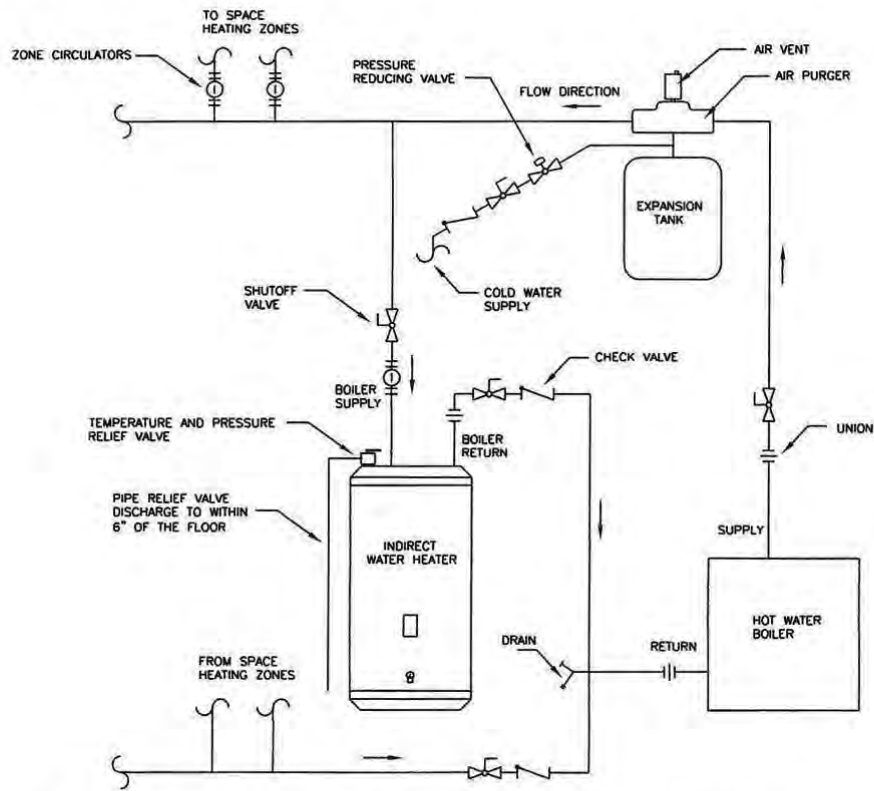
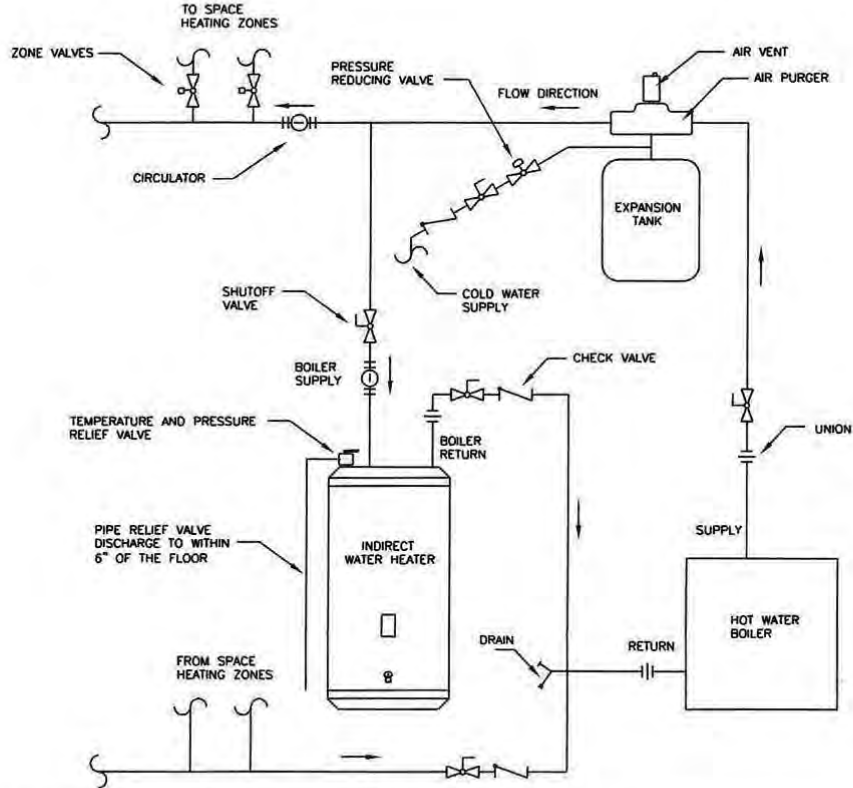

FIGURE 2 – BOILER WATER PIPING WITH ZONE CIRCULATORS
FIGURE 3 – BOILER WATER PIPING WITH ZONE VALVES
### **WATER BOILER PIPING (Refer to Figures 2, 3 on Pg. 10)**
1. Determine where the boiler, the space heating, and the water heater connections should be made based on the type of piping system that is either in place, or is to be installed for a new hydronic system installation. See Figure 2 (Boiler Water Piping with Zone Circulators) and Figure 3 (Boiler Water Piping with Zone Valves).
For space heating systems that use Zone Circulators, refer to Figure 2. The water heater connection labeled "BOILER SUPPLY" should be piped to the boiler supply piping after the air purger and before the space heating takeoffs. Mount the water heater circulator as close to the water heater as possible, and make sure the flow arrow points toward the water heater. The use of shut-off valves is recommended for future service convenience.
For a space heating system that uses Zone Valves, refer to Figure 3. The water heater connection labeled "BOILER SUPPLY" should be piped to the boiler supply piping after the air purger and before the space heating circulator. Mount the water heater circulator as close to the water heater as possible, and make sure the flow arrow points toward the water heater. The use of a shut-off valve is recommended for future service convenience.